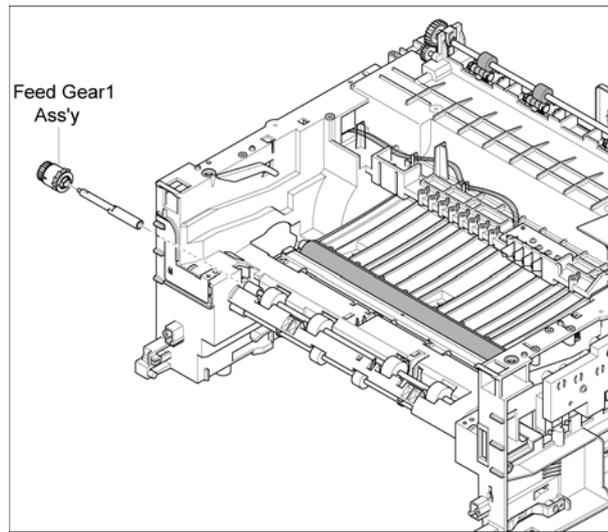

Figure 5
6. Remove the Feed Gear 1 Assembly and Feed Roller 1, Figure 5.